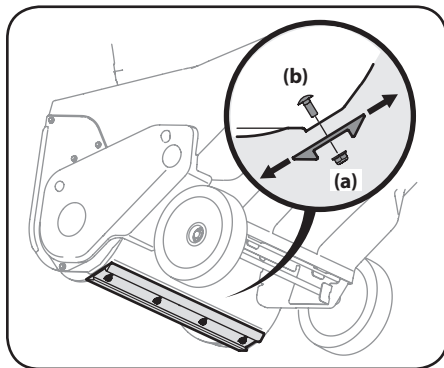

Figure 4-2
3. Loosen the four flange lock nuts (a) and carriage screws (b) which secure the shave plate to the housing. See Figure 4-2. Move the shave plate to the desired position and retighten the flange lock nuts (a) and carriage screws (b) securely.
4. Remove the four carriage screws (b) and flange lock nuts (a) which attach it to the snow thrower housing. See Figure 4-2.